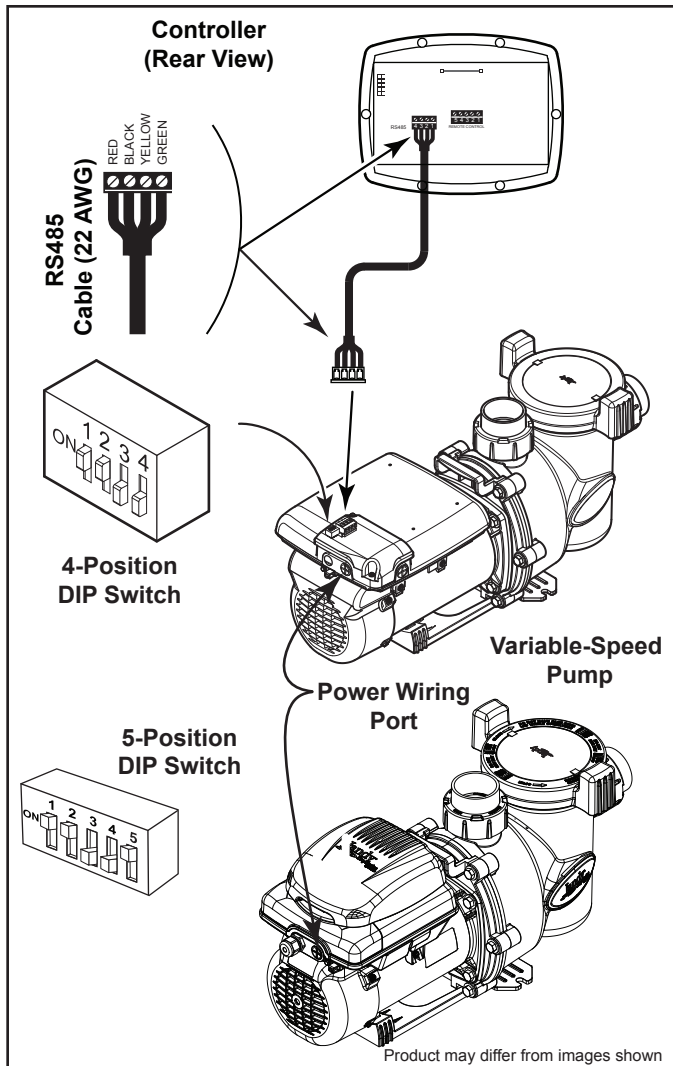

Figure 9. Wiring Variable-Speed Controller (JEP-R)
4. Attach the four (4) wires in the RS-485 cable to the RS-485 connector. Match the wire colors with the positions on the connector: 1- red, 2- black, 3- yellow, and 4- green. See Figure 9.
6. Slide dip switches 1 and 2 up, so they are in the ON position, and slide switches 3 and 4 down, so they are in the OFF position. See Figure 9.
See Figures 9 and 10 for compartment’s location details. An access cover with Phillips-head screw must be removed before proceeding.